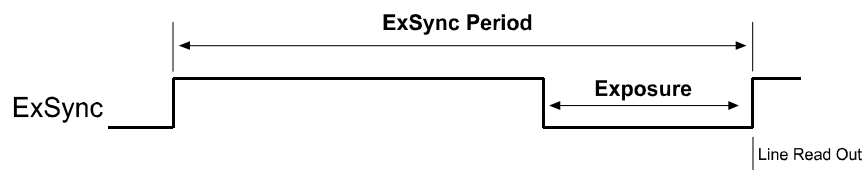

Figure 3-4: ExSync, Level-controlled Mode
- In **ExSync, level-controlled** mode, the exposure time is determined by the time between the falling edge of ExSync and the next rising edge. The pixels are exposed and charge is accumulated only when ExSync is low. The line is read out and transferred on the rising edge of the ExSync signal (see Figure 3-4).